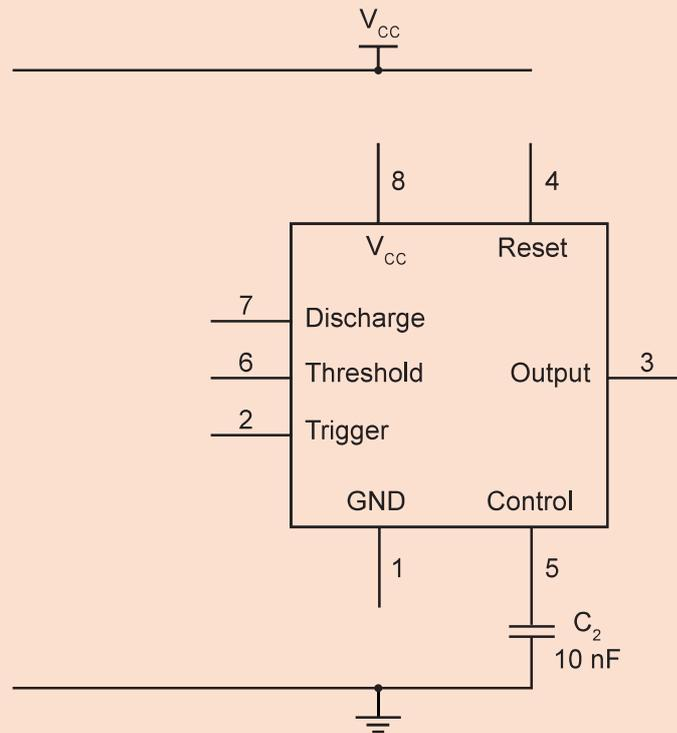

Figure 14.25
1. Complete Figure 14.25 to show how a 555 timer IC can be connected to work as an astable multivibrator. Your answer should include all necessary components and connections. All inputs and outputs should be clearly labelled.